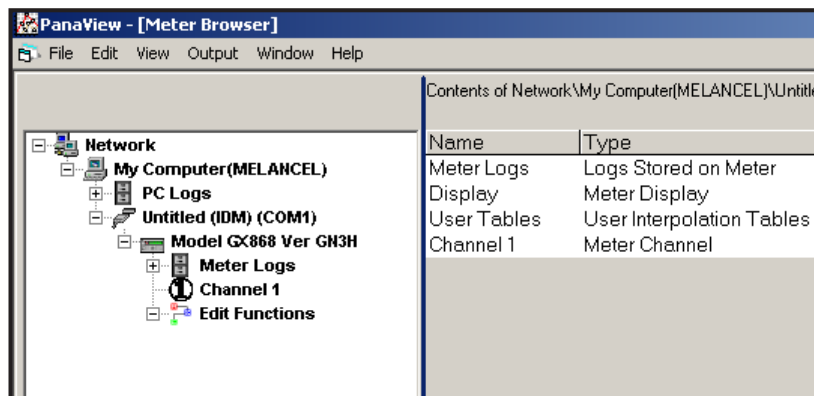

Figure 34: New Meter Browser with Meter Branch
3. Then expand the meter tree as shown in Figure 34.